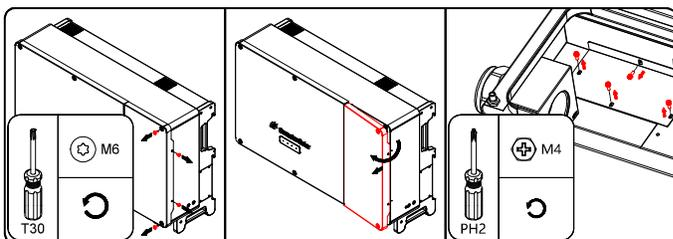

FIG 11 Open the junction box and remove the communication board protective cover
- 4) According to FIG 11, open the junction box first; Then remove the communication board protective cover.
- 9) After wiring is completed, install the communication board protective cover and close the junction box in the opposite order as shown in FIG 11. M4 torque: 1.5N.m, M6 torque: 4.5N.m.